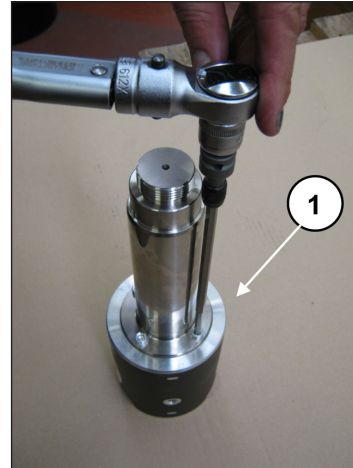

Fig. 46
To separate the rod from the piston guide, unscrew the hexagonal head M6 screws with a special wrench (pos. ①, Fig. 46).